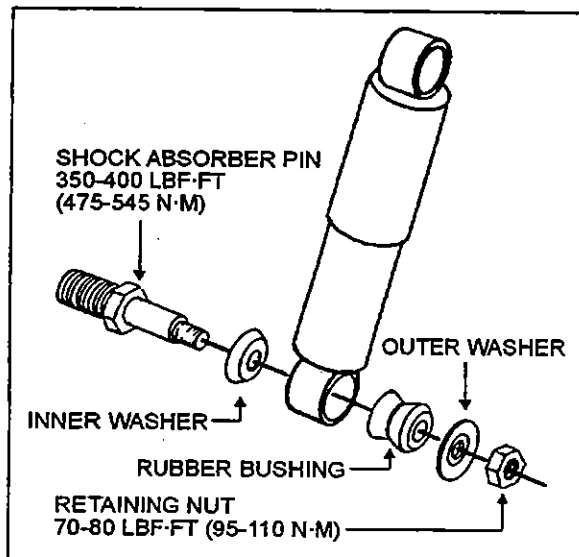

Figure 5
1. Remove nuts and washers from shock absorbers on upper and lower mounting pins, taking care to identify the inner and outer washers to ease reinstallation. Refer to figure 5 for details.